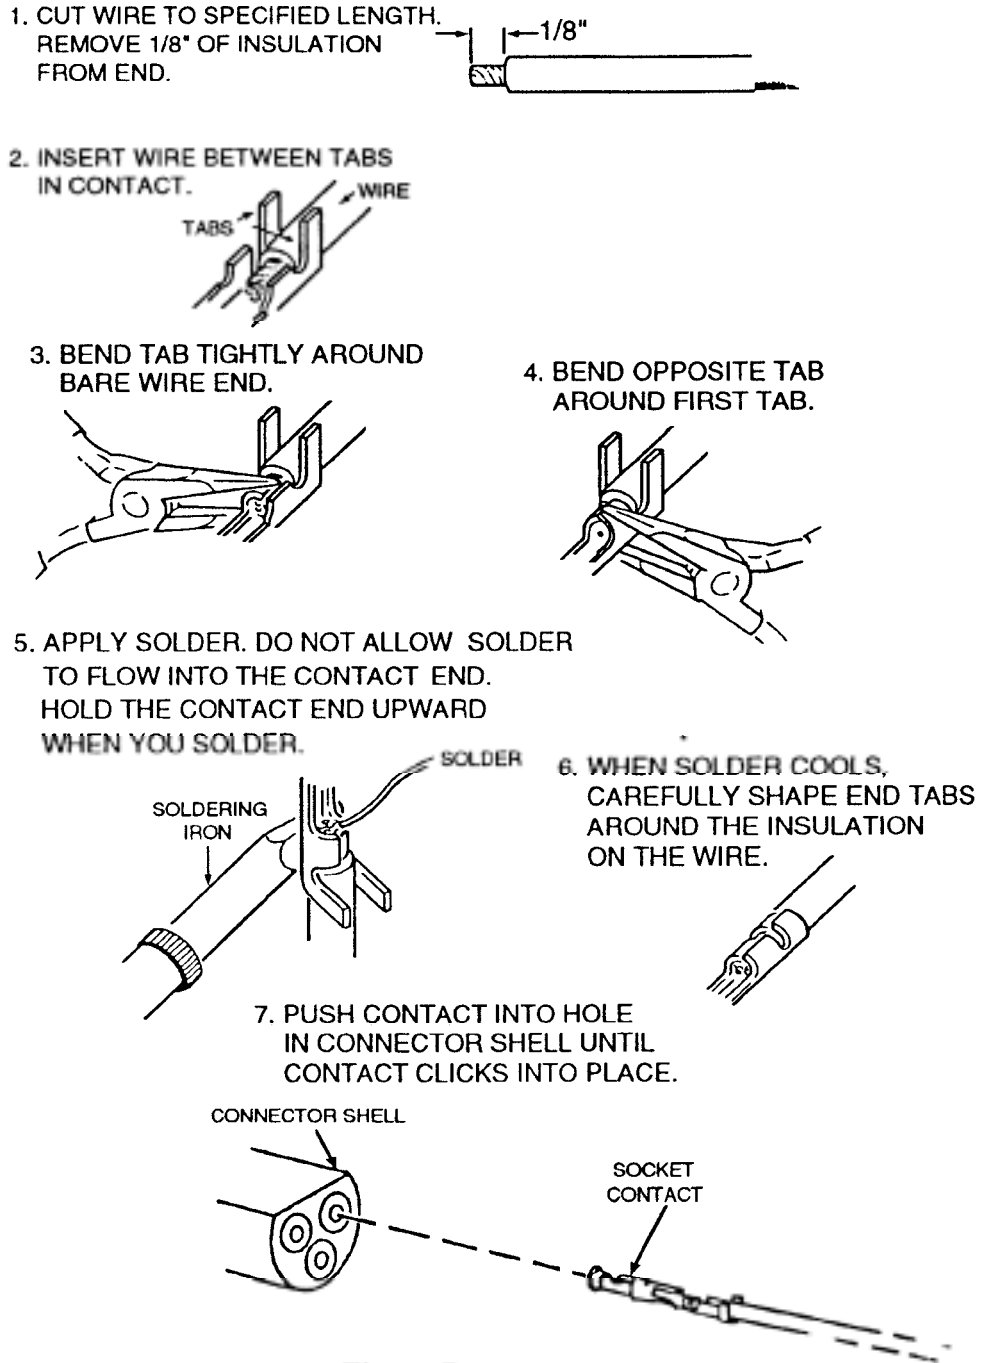

Figure 7
5. The DCU-1 "Pathfinder" display should look similar to the display shown in Figure 7. The numeric display in the lower left corner indicates the current bearing of your rotator. The numeric display in the lower right corner indicates the target bearing. If both displays read a steady "000", disconnect your control cable and check the cable wiring with an ohmmeter. Proceed if the